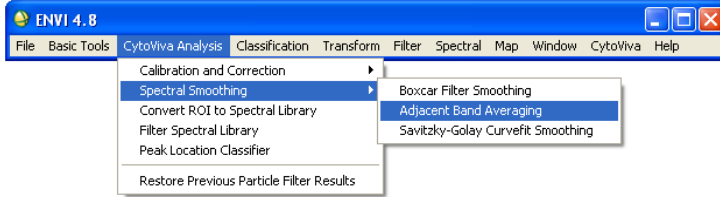

Figure 1. CytoViva Analysis Tab
2. In the tool bar, click the CytoViva Analysis tab, click Spectral Smoothing, then select the Savitsky-Golay Curvefit Smoothing(Figure 1).